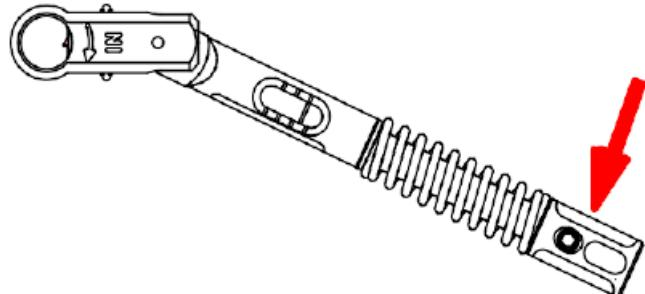

Figure 2
- The pressure point for exact torque activation only is on the handle of the adjusting nut (see arrow in **Figure 2**).